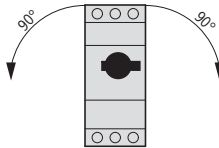

Figure 7: Permitted mounting position of the PKZM4/XTPR...DC1 motor-protective circuit-breaker
► Mount the motor protective circuit breaker only as shown in fig. 7.